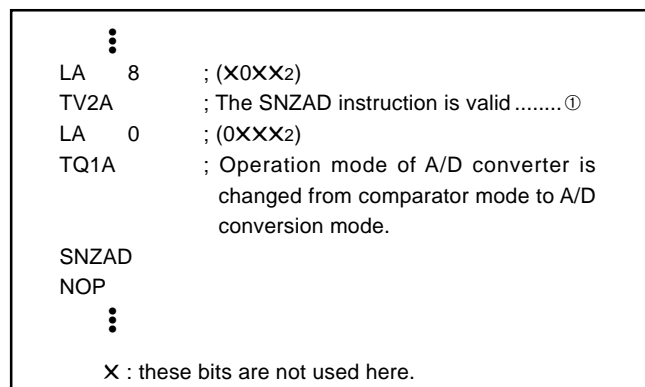

Fig. 52 A/D conversion interrupt program example
- Clear the bit 2 of register V2 to "0" (refer to Figure 52①) to change the operating mode of the A/D converter from the comparator mode to A/D conversion mode with the bit 3 of register Q1.